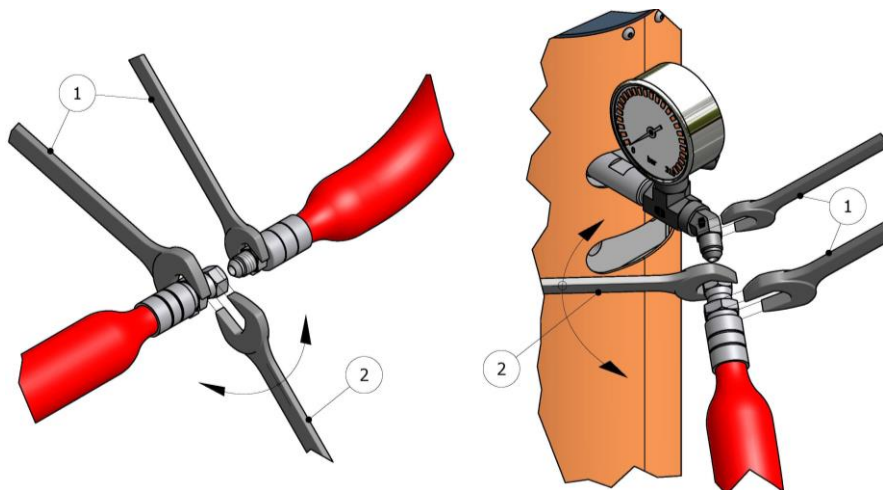

Figure 3. Hose coupling method
WARNING! To join hoses to each other, to the heaters, or to the gun, hold each hose end in place with a spanner (1), and with a third spanner tighten or loosen the coupling nut (2) as required (see Figure 3, pg.23). The tightening torque for these unions must be that indicated according to the procedure on page 21.